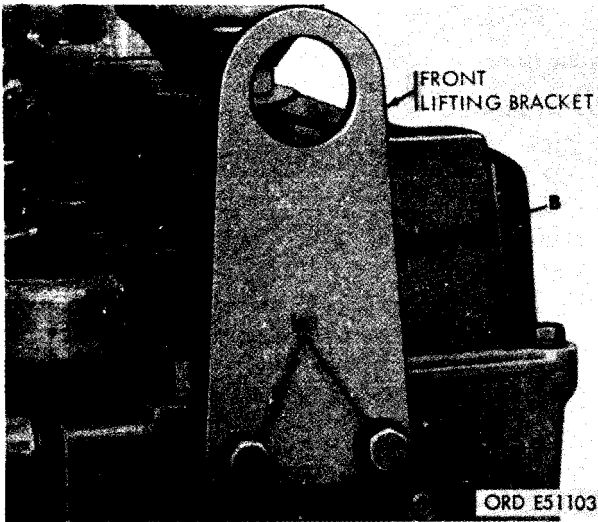

FIGURE 261. REMOVING OR INSTALLING ENGINE FRONT LIFTING BRACKET.
- (1) Figure 261. (A) Remove two 7/16 x 7/8 cap screws and 7/16-inch lock washers securing engine front lifting bracket to front cylinder head assembly. (B) Remove engine front lifting bracket.